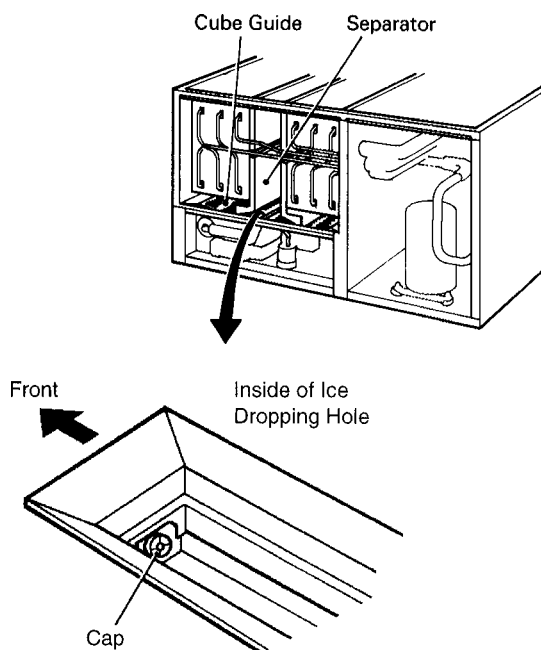

Fig. 13
- 7) Remove the Insulation Panel. Remove the Cap located on the front bottom part of the Ice Dropping Hole. Drain the Water Tank. See Fig. 13.
- 3) Remove the Insulation Panel. Remove the Cap located on the front bottom part of the Ice Dropping Hole. Drain the Water Tank. See Fig. 13.
5) Remove the Cap located on the front bottom part of the Ice Dropping Hole. Drain the Water Tank. See Fig. 13.